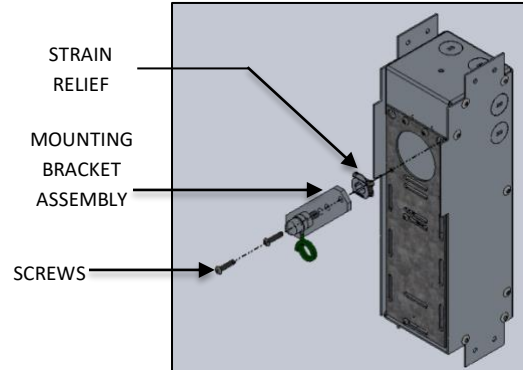

FIG.11 – MOUNTING BRACKET
2. Remove the SCREWS securing MOUNTING BRACKET ASSEMBLY, and slide MOUNTING BRACKET ASSEMBLY out of J-BOX along with STRAIN RELIEF provided in it as shown in FIG. 11.